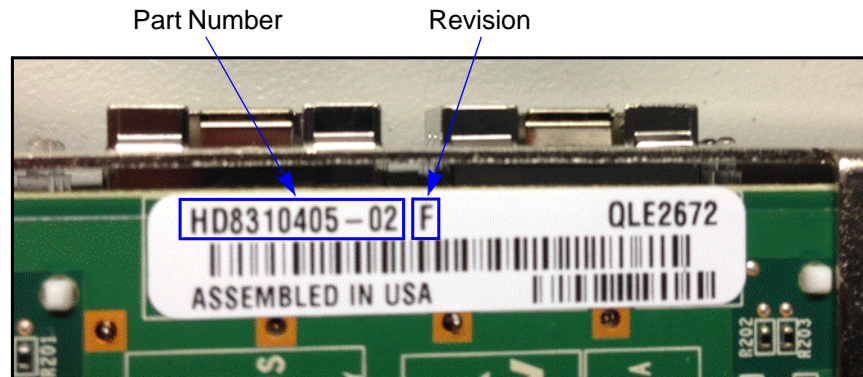
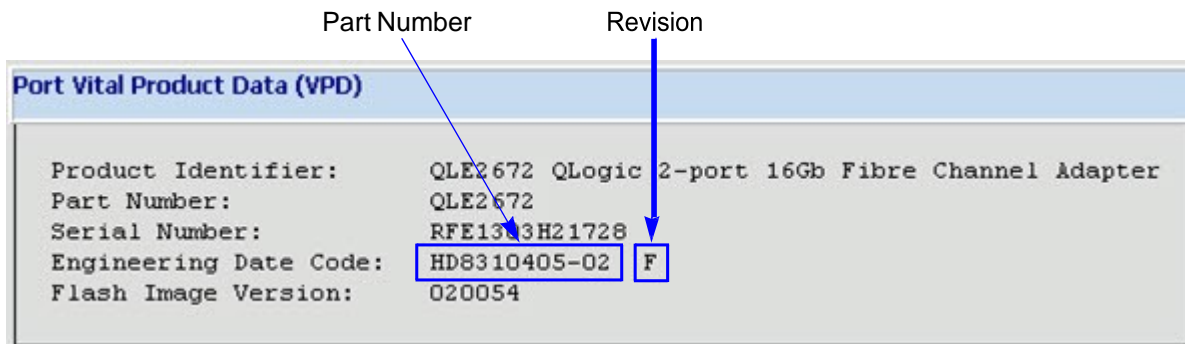

Figure 3-1. 2600 Series Adapter Part Number Location—Physical
Figure 3-2. 2600 Series Adapter Part Number Location—QConvergeConsole GUI
- Locate the physical label on the adapter that has the part number (see Figure 3-1), and then check to see if it is listed in Table 3-1.
Some 2600 Series Adapters that support personality change require an *enablement kit* (available on the QLogic Web site) for the change to work. For the adapters listed in Table 3-1, revisions A, B, C, D, E, F, and G require the enablement kit; revisions H and later do not. The adapter revision is printed on a label on the adapter (see Figure 3-1) and displayed in QConvergeConsole GUI (see Figure 3-2).